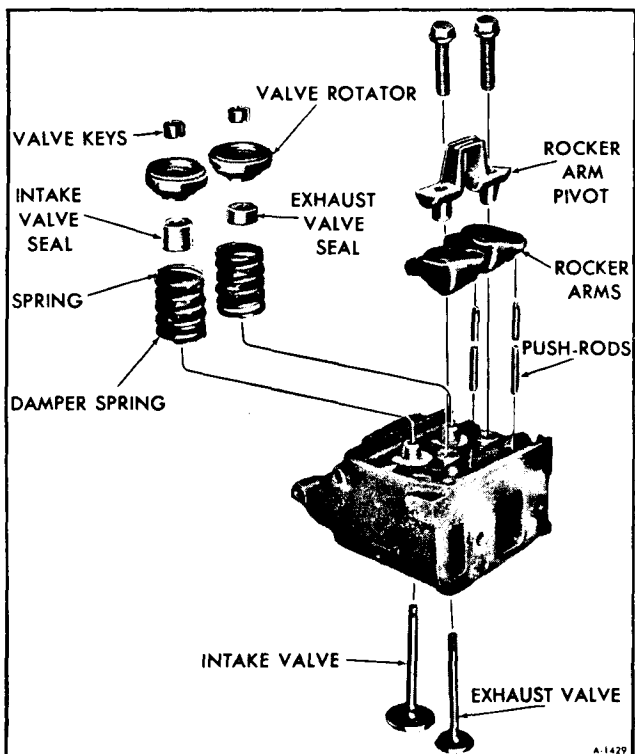

Figure 17-Cylinder Head-Exploded View
## ROCKER ARM ASSEMBLIES (FIGURE 17)
3. Position rocker arms, pivots and bolts on cylinder head as shown in Figure 17.
6. Remove rocker arm bolts, pivots, rocker arms and push-rods as shown in Figure 17.